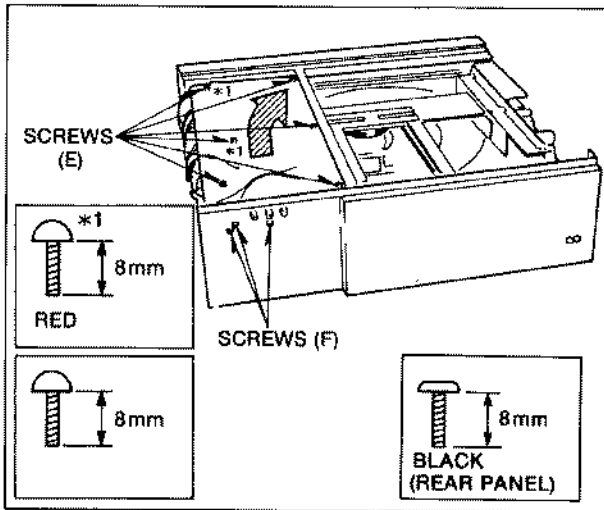

Fig. D6
2. Remove the Main C.B.A. (refer to Fig. D6).